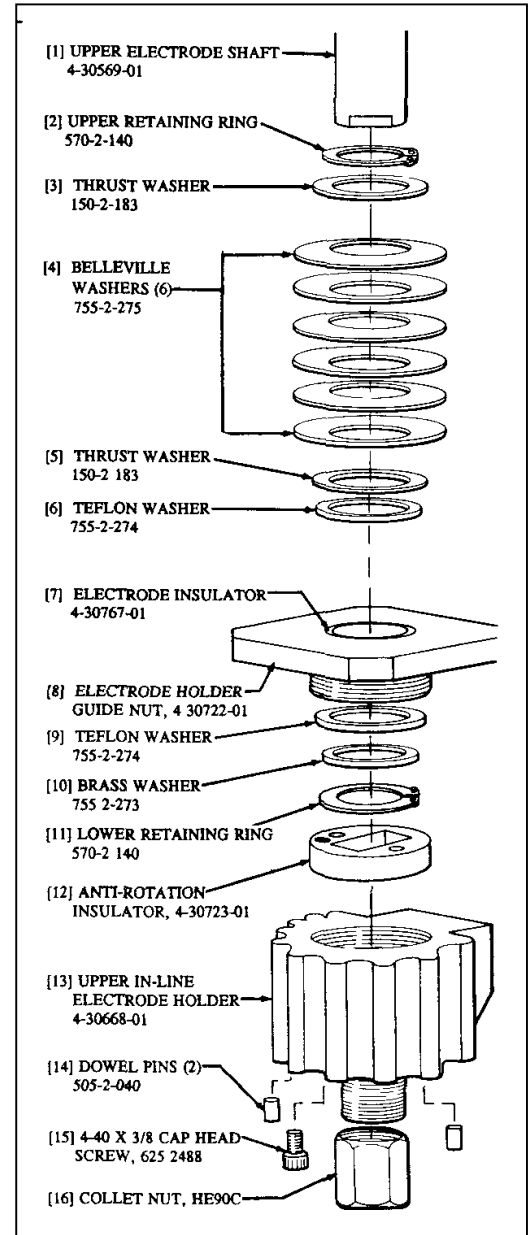

Figure 5-5. Upper In-line Electrode Holder Exploded View.
- 4 Reference Figure 5-5. Remove the ELECTRODE HOLDER COLLET NUT, item [16], from the UPPER IN-LINE ELECTRODE HOLDER, item [13].
- 1 Reference Figure 5-5. Remove the In-Line Electrode Holders parts by following the procedure outlined in Section 8.03. DO NOT REMOVE THE UPPER RETAINING RING, ITEM [2], FROM THE UPPER ELECTRODE SHAFT, ITEM [1].